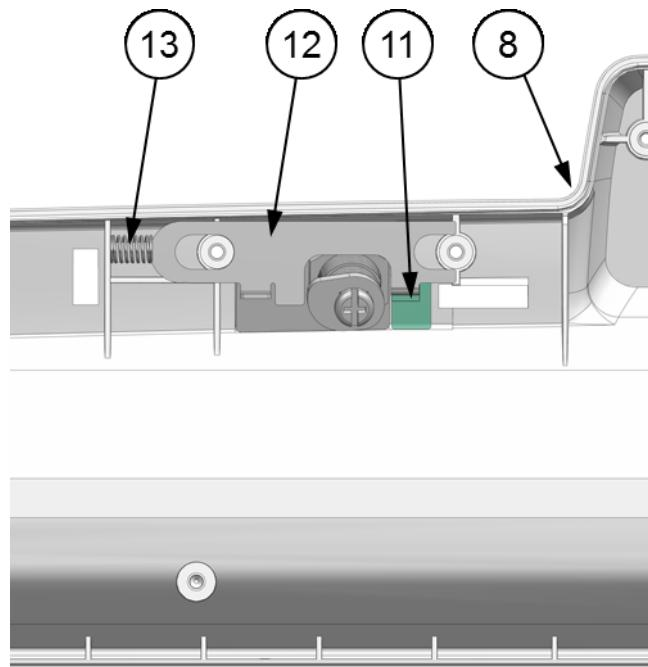

Fig. 98 The PCA bolt cover placement in the cavity of the Front case
12. On the **PCA bolt cover (12)** assembly the **PCA bolt cover spring (13)**. The assembled set insert into the cavity of the **Front case (8)** as shown in **Fig. 98.**